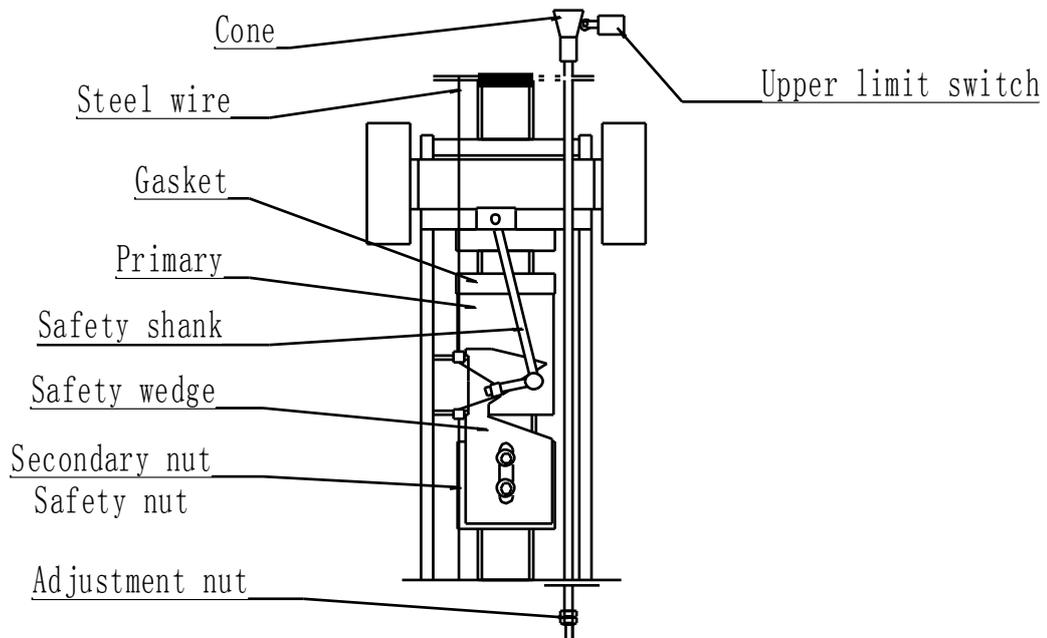

Fig 30
6.2.5 It is not allowed to operate the lifter when it stops during descending or is at the lowest position. At this time, discharge the bolt on top of the face guard and pull the face guard out a bit, then observe the mother nut or secondary nut or touch them by hand. If situation showed in Fig 30 occurs, this indicates the lower terminal stopping switch is invalid or there are foreign substances under the forklift foot. Let the electrician open the electric cabinet door, press the contactor directly to lift the lifter for 5~10cm for elimination of foreign substances.